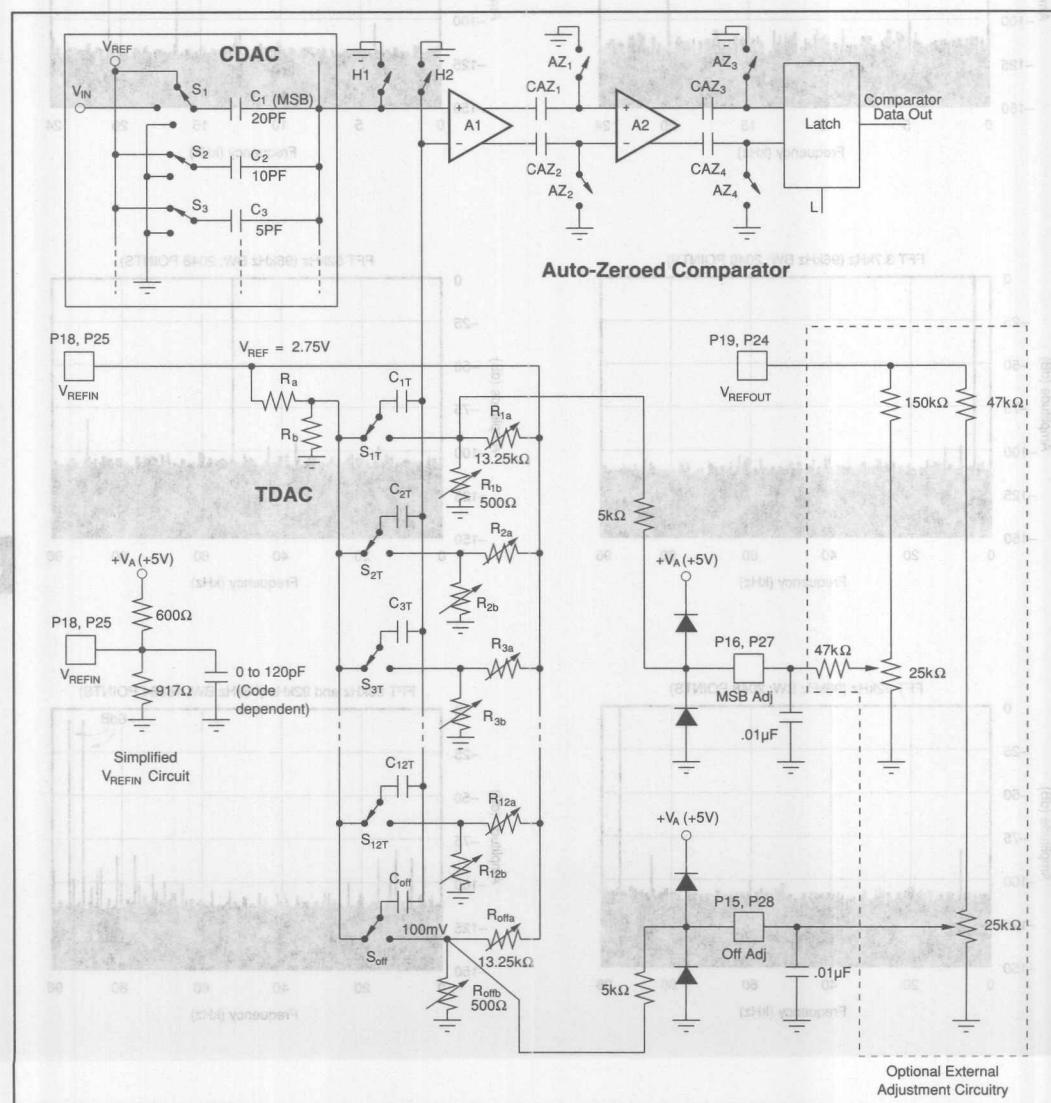
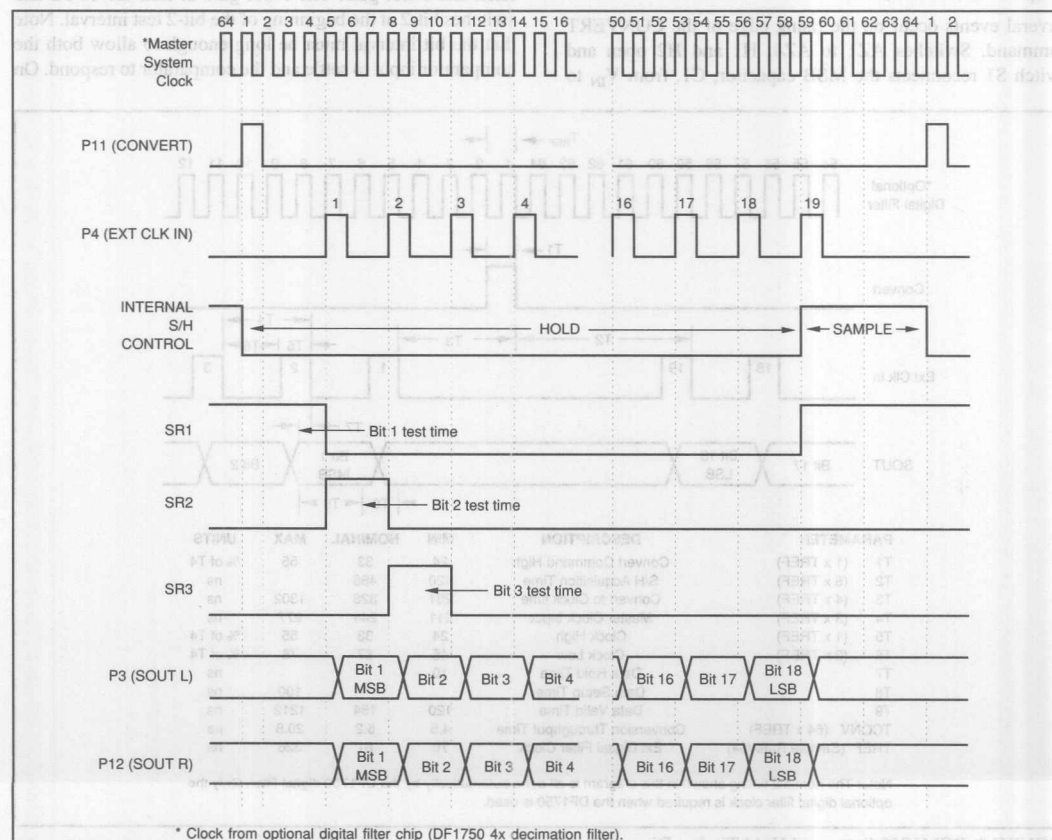

FIGURE 1. PCM1750 Simplified Circuit Diagram.
FIGURE 2. PCM1750 Input/Output Timing Diagram.
NOTES: (1) Binary Two's Complement coding. (2) The PCM1750 is tested and guaranteed at 5.2 μs , however it will operate at 4.5 μs . The dynamic performance is not guaranteed or tested at this conversion rate. (3) Ratio of $Signal_{RMS} / (Distortion_{RMS} + Noise_{RMS})$. (4) A/D converter sample frequency (4 x 48kHz; 4X oversampling per channel). (5) A/D converter input frequency (signal level). (6) Referred to input signal level. (7) Ratio of $(Distortion_{RMS} + Noise_{RMS}) / Signal_{RMS}$. (8) Externally adjustable to zero error. (9) Differential non-linearity error at bipolar major carry input code. Externally adjustable to zero error. (10) Full scale range (5.50V). (11) Refer to equivalent circuit in Figure 1. (12) Worst case operating condition. Refer to typical performance curves.
After each conversion, the dual ADC returns to the SAMPLE mode in order to track the input signals. The switches shown in the simplified circuit diagram of Figure 1 will then be in the following states: S1 connects V_{IN} to C1; S2 to S18 connect C2 to C18 to V_{REF} ; H1 and H2 connect the top plates of the capacitor arrays to analog common; and the latching comparator is switched into its auto-zero mode by closing AZ1 to AZ4. Notice that C1 serves two purposes: it samples and stores the input signal V_{IN} and it is the MSB of the CDAC. Storing V_{REF} on C2 to C18 creates a bipolar offset, enabling V_{IN} to cover a span from $-V_{REF}$ to $+V_{REF}$.
shown in Figure 2). These errors are stored on the AC coupling capacitors (CAZ1 to CAZ4, shown in Figure 1) between the gain stages. During the SAMPLE period the inputs to gain stages A1 and A2 and the latch are grounded by switches H1, H2, and AZ1 to AZ4. Capacitors CAZ1 and CAZ2 track the amplified offset voltage of gain stage A1 and capacitors CAZ3 and CAZ4 do the same for A2. At the beginning of a conversion cycle, the autozeroing switches open and the instantaneous amplified value of both the DC offset voltage and the low-frequency flicker noise is stored on the coupling capacitors to produce zero comparator offset during a conversion cycle.
The timing diagram in Figure 2 illustrates the successive approximation routine of the PCM1750. Control signals CONVERT and CLK are derived from a master system clock which comes from a $256f_s$ (256 X the base sampling frequency of 48kHz) clock used by the optional digital filter. There are 64 clocks shown in the timing diagram because the PCM1750 is shown operating at 4 times the standard 48kHz sample rate (192kHz).
For example, the testing of bit-2 proceeds in the following manner. The positive pulse from the second shift register element SR2, (see Figure 2 and 4) is applied to the bit-2 data latch and NOR gate. The NOR gate in turn drives S2 and switches bit-2 at the beginning of the bit-2 test interval. Note that the bit interval must be long enough to allow both the comparator input to settle and the comparator to respond. On
Notice from the timing diagram in Figure 2 that the successive approximation algorithm operates synchronously with an external clock to minimize digitally-coupled switching noise from corrupting either the sample-to-hold operation or the critical comparator bit decisions. The two serial output data streams are derived synchronously from the respective latched comparator outputs and are available after a delay of one CLKIN cycle as illustrated in Figure 2. The serial output driver cells are TTL and CMOS compatible.
Operation of the TDAC (trim DAC), which is laser trimmed at the wafer level, is described using bit-1 as an example. Switch S1T (see Figure 1) operates between two voltage levels—a reference level set by voltage divider Ra, Rb and a laser trimmable level set by R1a, R1b. The differences of these two levels is coupled by capacitor C1T to the minus input of the comparator to generate a correction voltage for